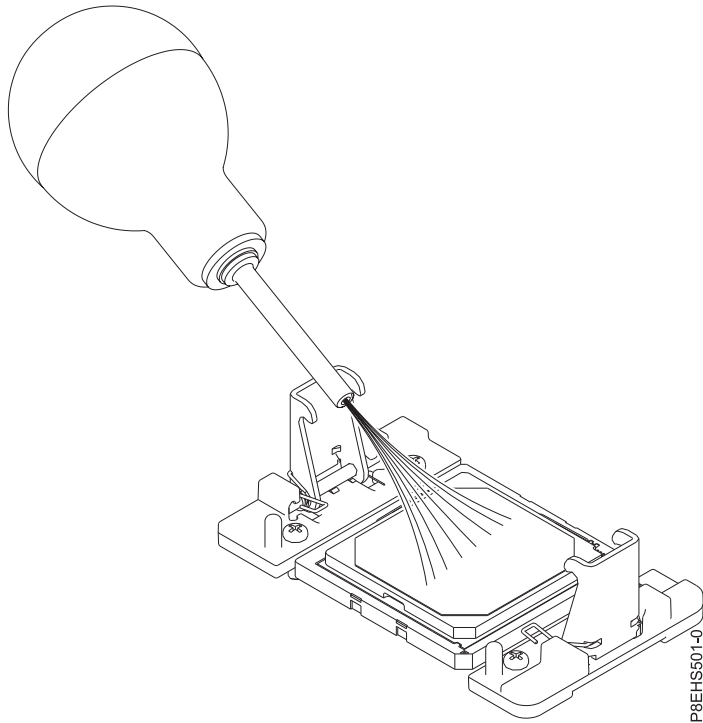

Figure 73. Removing dust and debris from the system processor module area
- a. If dust or debris is present, use the supplied air pump (part number 45D2645) to clean the system processor module area. Blow small bursts of air from the center toward the sides of the system processor module as shown in Figure 73 on page 65. If your air pump is not assembled as shown in Figure 73 on page 65, fasten the tip onto the bulb.